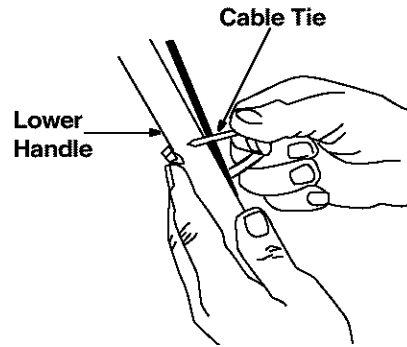

Figure 7
- Attach control cables to handle by inserting post of cable ties into the holes on the lower handle. The holes may be on either side of the handle. Pull cable ties tight and cut off the extra. See Figure 7.